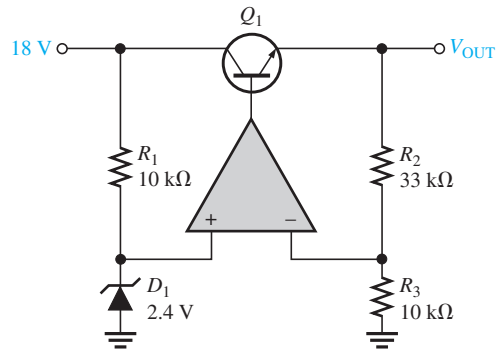

FIGURE 11-40
6. Determine the output voltage for the regulator in Figure 11-40.